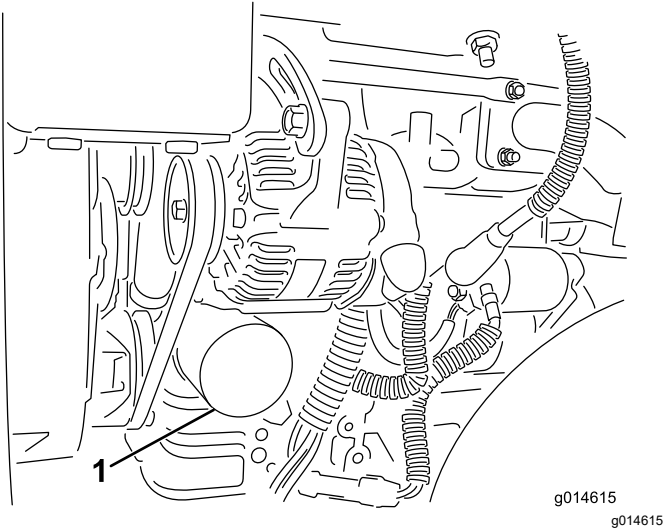

Figure 36
2. Remove the oil filter (Figure 36). Apply a light coat of clean oil to the new filter gasket.